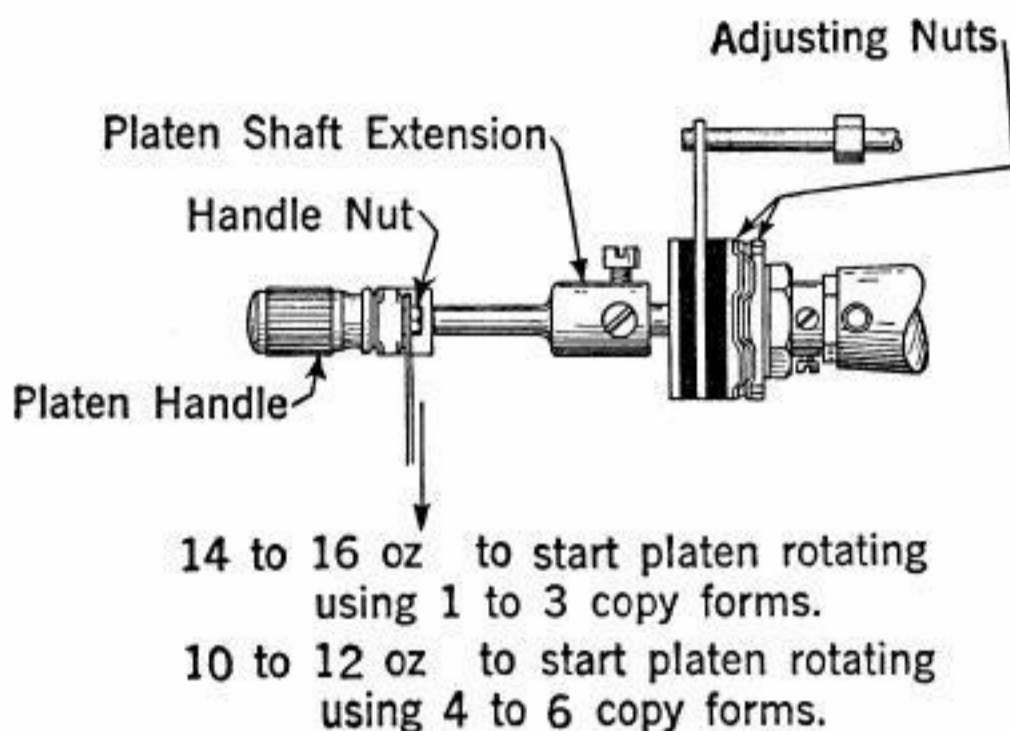

Fig. 4.
2.09 **Platen-friction assembly** should require a pull of Min 14 oz (395 gm), Max 16 oz (455 gm), applied as in Fig. 4, to start the platen rotating when the pressure rollers
are lifted off the platen, the line-feed detent-lever spring is unhooked, the platen-handle is placed vertically upward and 1 to 3 copies of sprocket-feed paper forms are used. **Fig. 4**